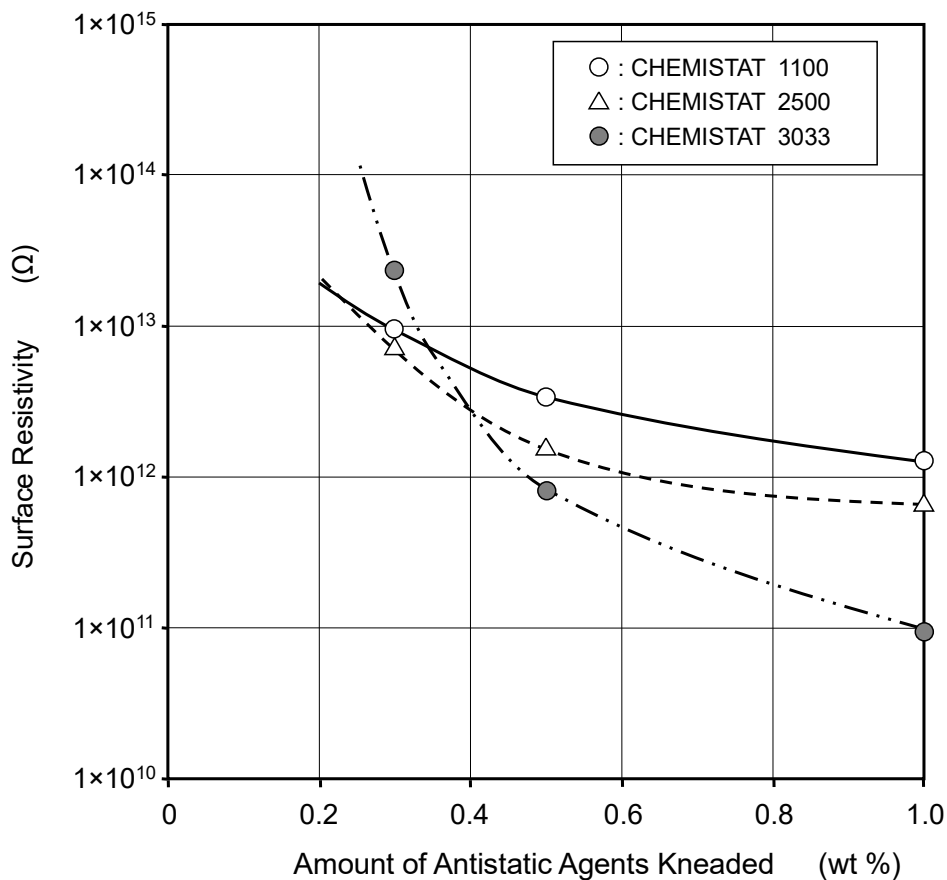
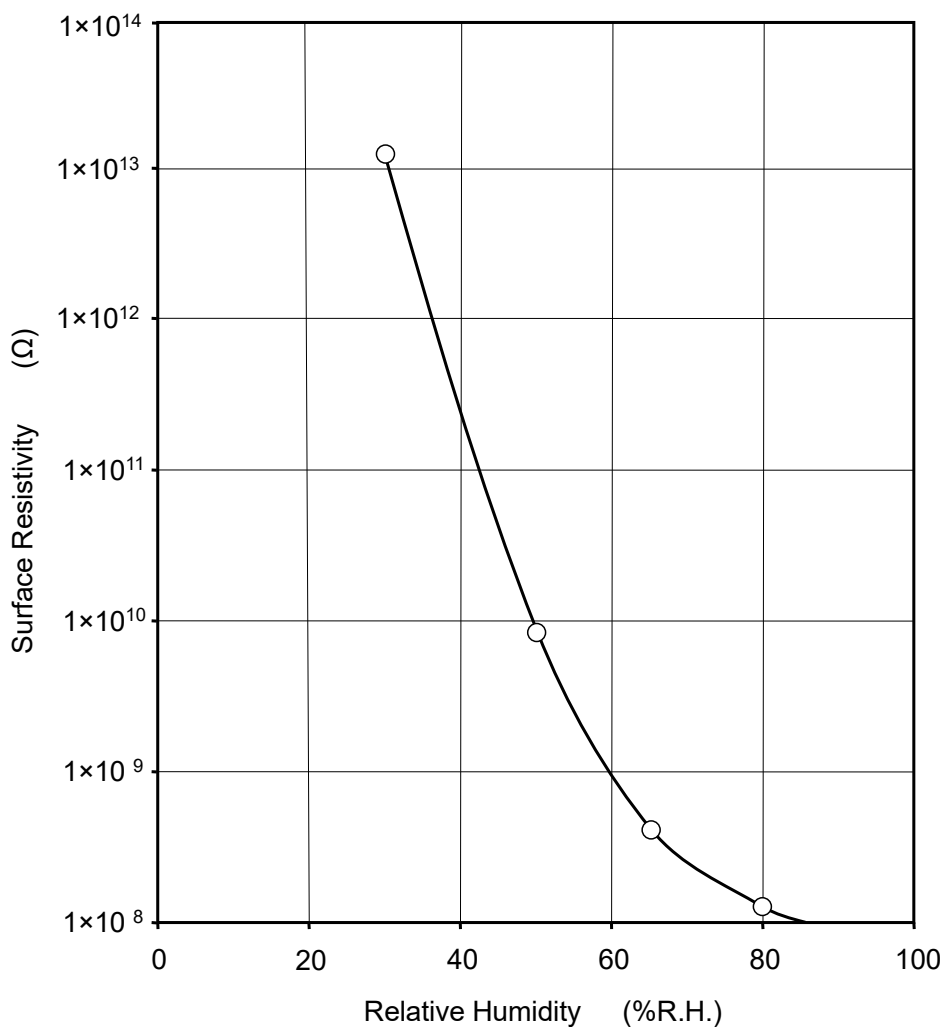

Figure 2. Relationship between Amount of Kneading Type Antistatic Agents and Surface Resistivity
Figure 6. Relationship Between Relative Humidity and Surface Resistivity
Figure 2 shows the relationship between the amount of kneading type antistatic agents in polypropylene (PP) and the surface resistivity.
A predetermined amount of the antistatic agent as described in Figure 2 and PP were blended, and the mixture was kneaded with a Henschel mixer. The kneaded mixture was then molded with an injection molding machine [injection temperature: approx. 225 °C, injection pressure: 8MPa (gauge), molding temperature: 40 °C] into plate type samples (80 mm×80 mm×2 mm). These samples were kept at 20 °C, 65%R.H. for 1 week.
See Figure 2.
Generally, the antistatic property of antistatic agent depends on the humidity. As an example, Figure 6 shows the relationship between the humidity of a PP sheet coated with SANSTAT 2012A\* and the surface resistivity.
A PP sheet was coated with SANSTAT 2012A (0.1g/m2) according to a brief immersion method. It was then kept at 20 °C, at the predetermined humidity level as described in Figure 6 for 24 hours, and used for the sample.
Same as Figure 2, except that they were measured at 20 °C at the predetermined humidity level described in Figure 6.